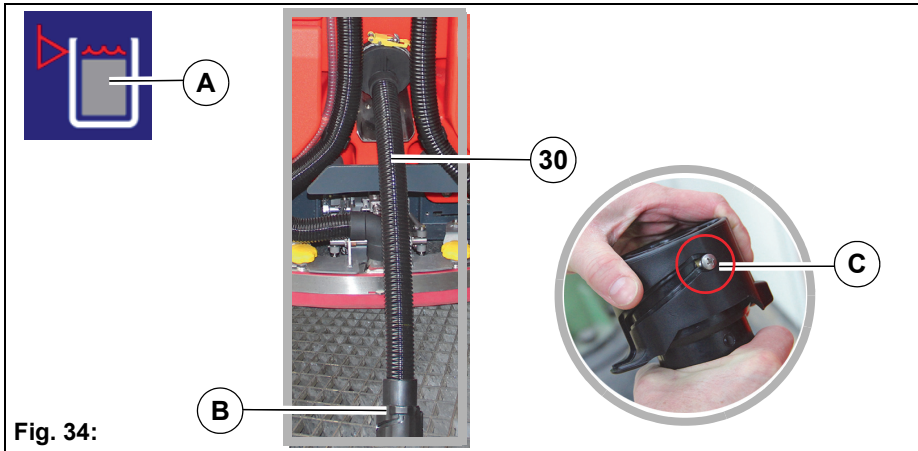

Fig. 34:
Clean the waste water tank **Fig. 35-37** daily or as required. When the symbol *Waste water tank full* **Fig. 34-A** appears in the display panel and an acoustic warning signal is output, the suction functions are switched off and the waste water tank should be drained immediately.
4. Remove the drain hose from the holder, open the drain valve **Fig. 34-B** and drain the waste water tank via the drain.
5. Ensure that the drain hose closure is fully closed after draining **Fig. 34-C!**